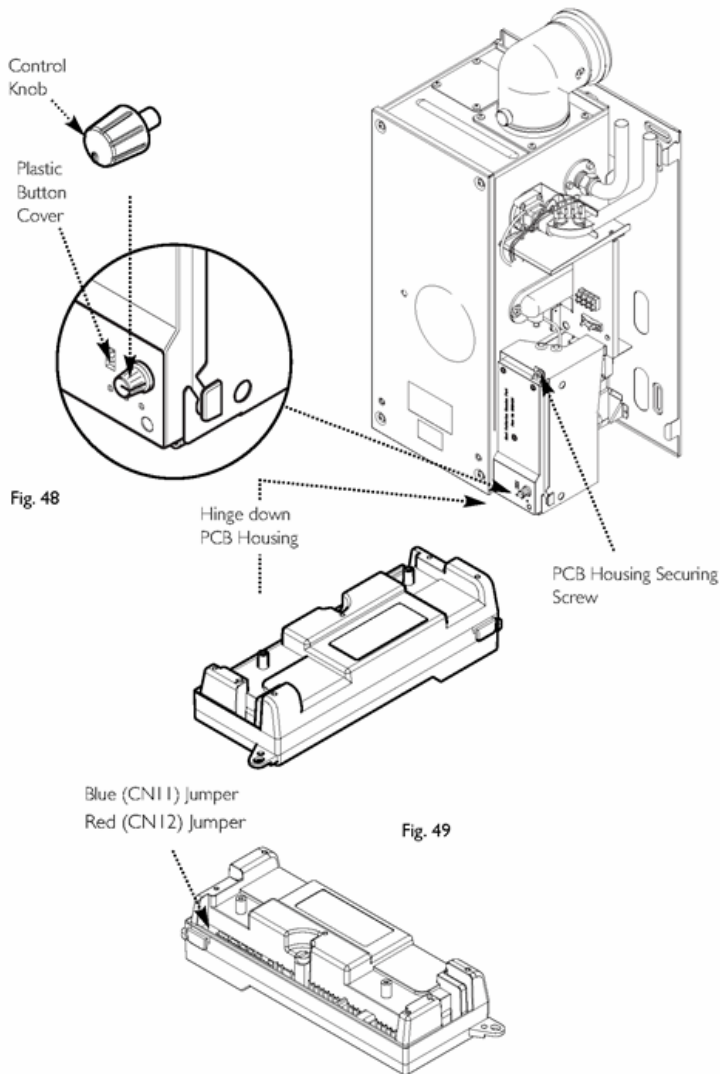

Fig. 48 & Fig. 49
15.4 PCB (Figs. 48 & 49)
1. Pull the control knob off the spindle and remove the plastic button cover. Refit them onto the new PCB (Fig. 48).